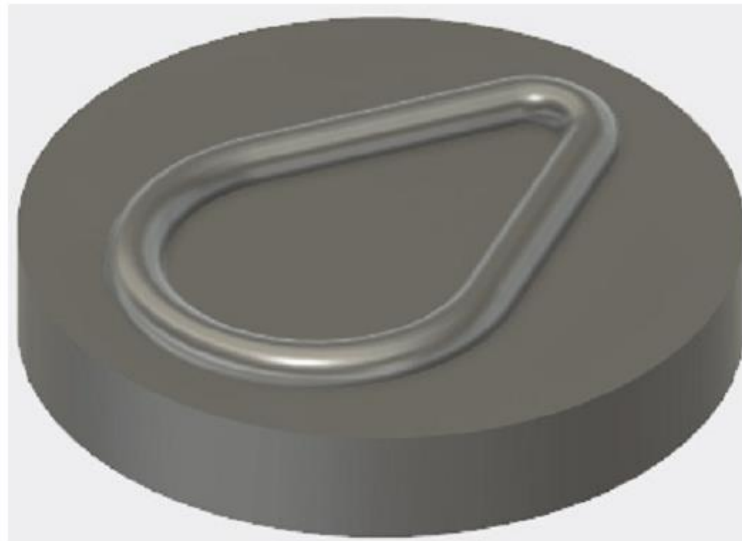

Figure 11–11
9. Click **OK** to create the sweep. The model displays as shown in Figure 11–11.